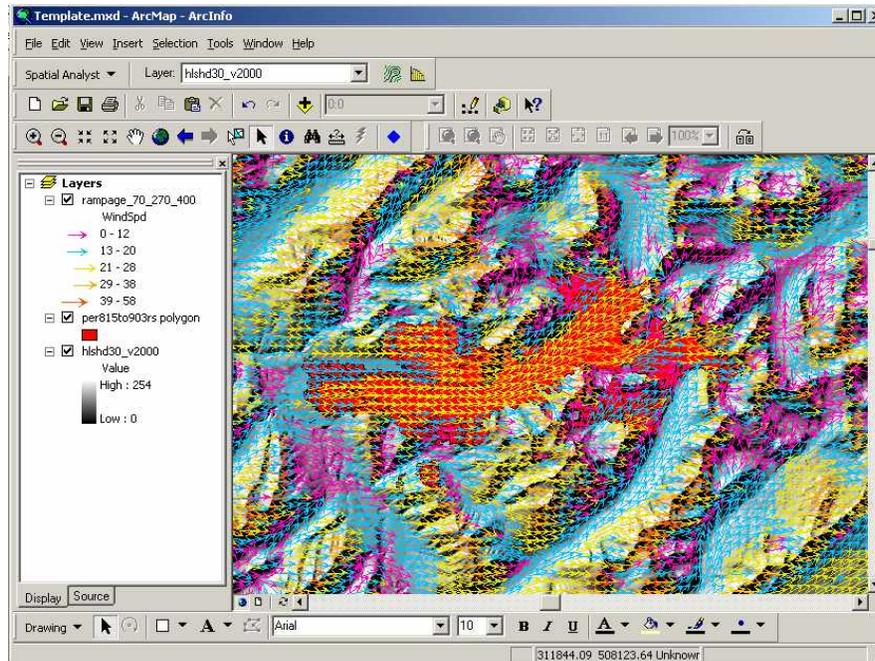

Figure 9. ArcMap display of rotated and graduated wind direction and speed.
16. The wind vectors will appear over the existing layers (Figure 9).
17. Symbol colors can be changed by clicking on the individual symbols in the **Table of Contents** for the respective shapefile (Figure 9).